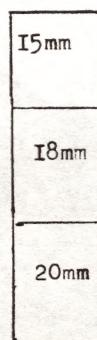

FIG 3.
Next for the jib; cut from cardboard 2 pieces as per pattern (fig 3), plus 2 strips 1 mm wide to form strapping around the jib frame, plus 1 strip 15 x 53 mm to make a gear box from. Obtain from mum, sister, wife, daughter, one fine chain, also a bead (O). With a 40 mm length of wire, assemble as per fig 3.